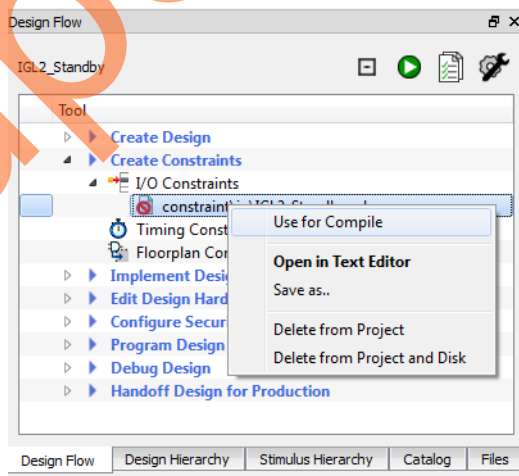

Figure 20 • Selecting I/O PDC Constraint File in Design Flow Tab
2. Right-click and select **Use for Compile**, as shown in Figure 20. A green check mark appears next to the constraint file indicating that the file will be used.